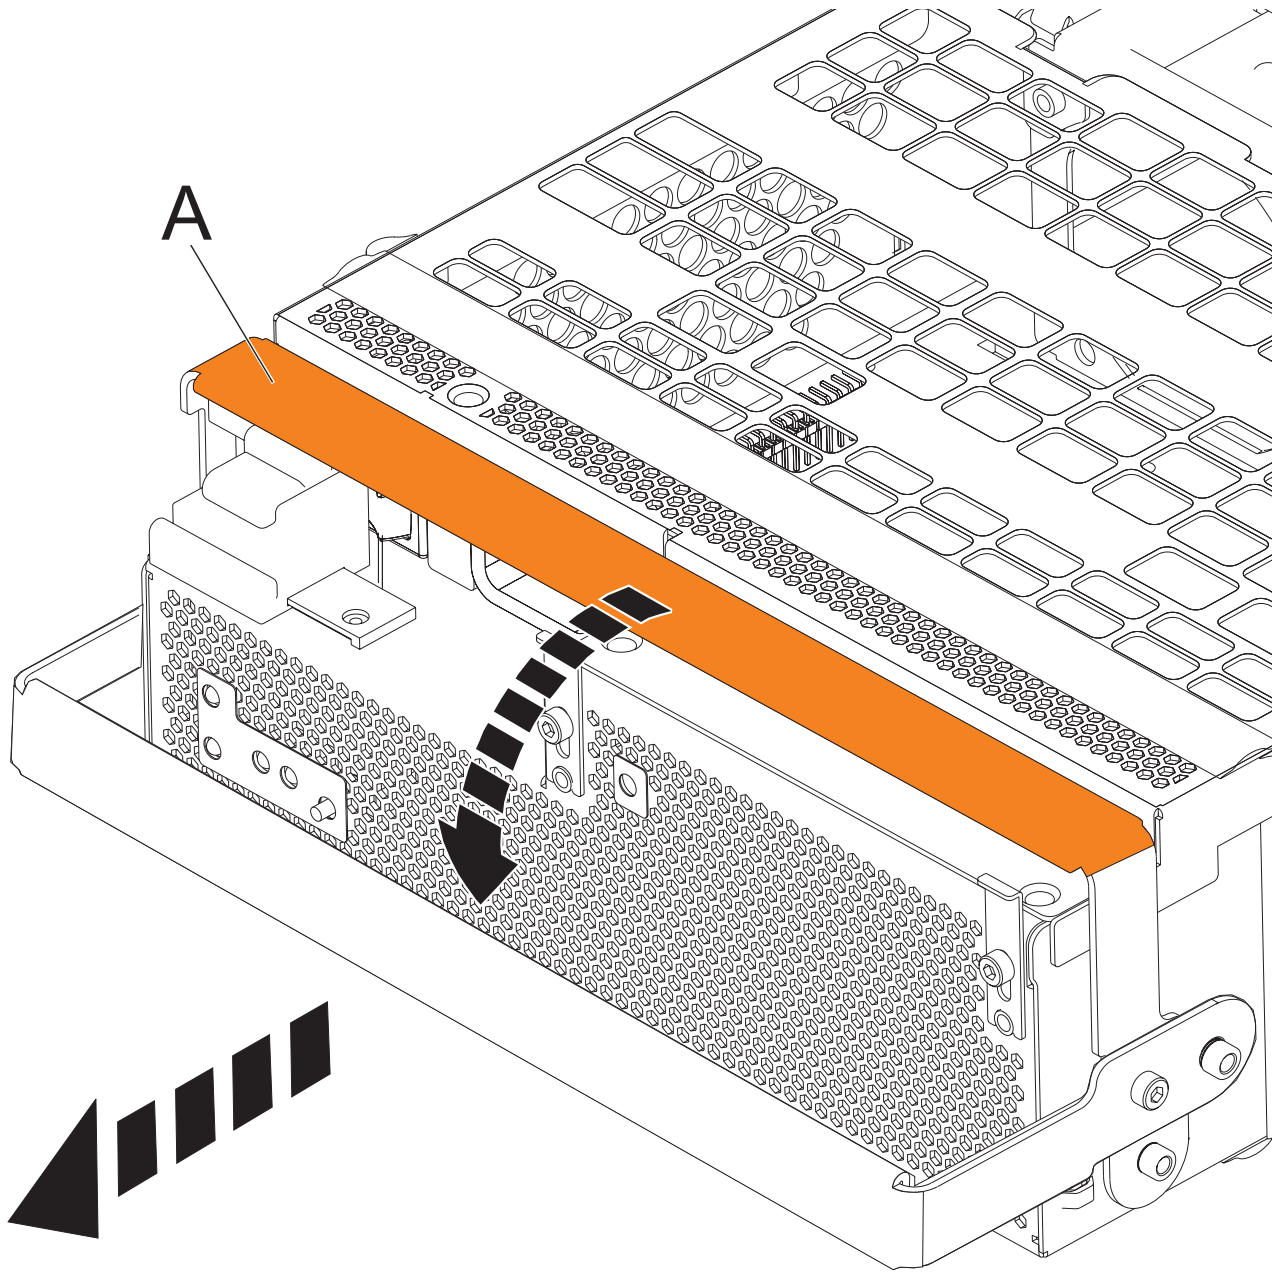

Figure 65. Remove the offline converter assemblies
- a. Pull the OCA handle (A) all the way down in the direction shown to unseat the OCA. See Figure 65 on page 82.